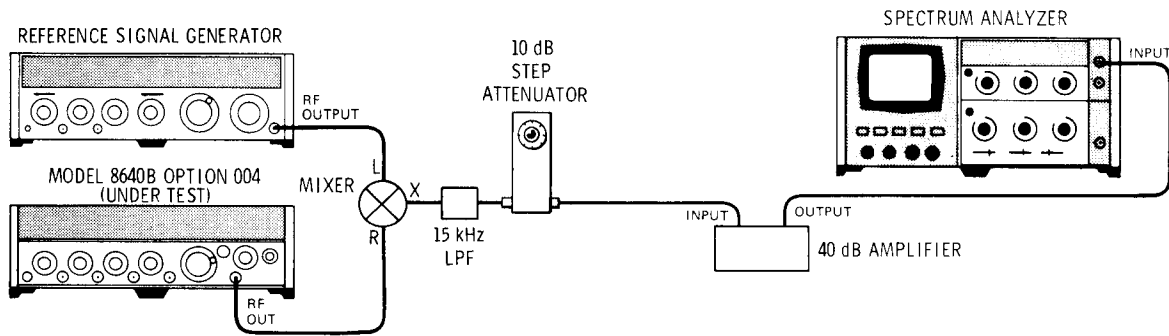

Figure 4-7. Single Sideband Broadband Noise Floor Test Setup
- Connect equipment as shown in Figure 4-7 after setting test Signal Generator's controls as follows: